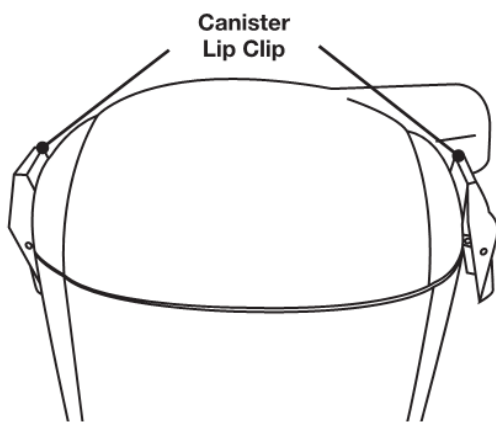

Fig 1
2. Open canister lid by lifting canister lid tabs on each side of the unit (Fig.1).